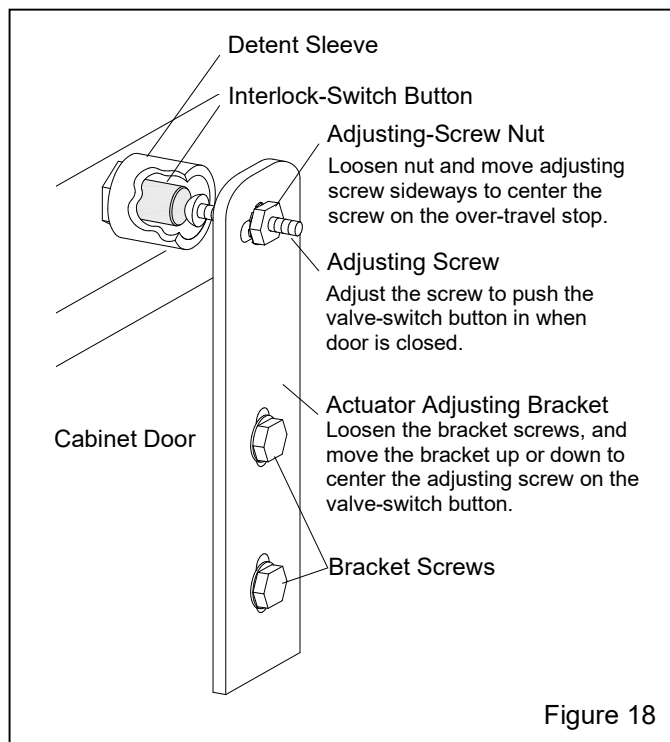

Figure 18
5.5 Door Interlocks – Figure 18